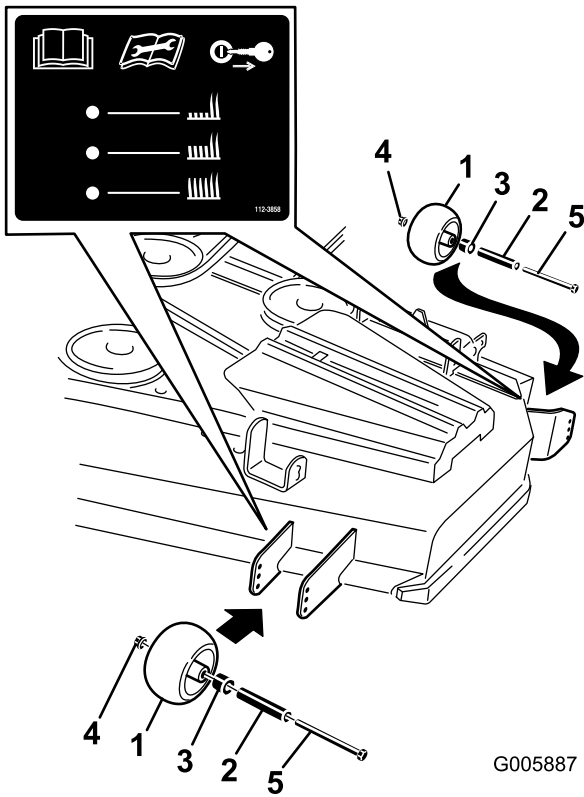
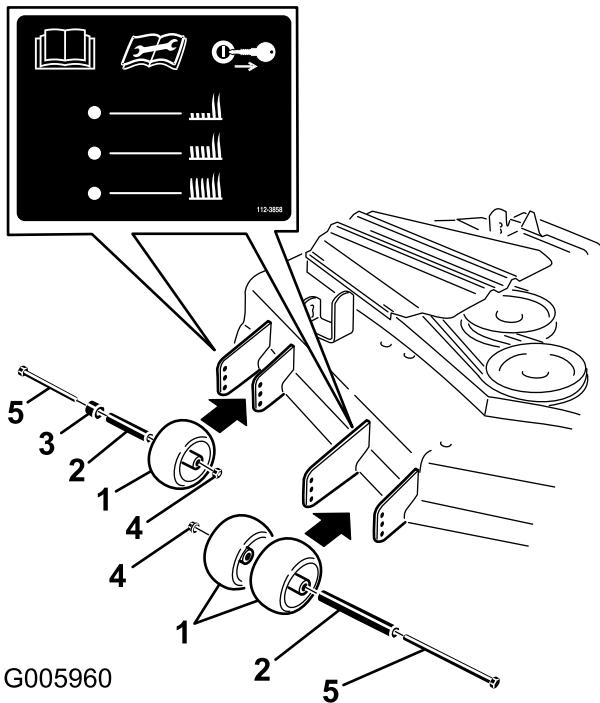

Figure 17
Figure 18
3. After adjusting the height-of-cut, adjust the rollers by removing the flange nut, bushing, spacer, and bolt (Figure 17 or Figure 18).
Note: The two middle rollers will not have a spacer (Figure 17 or Figure 18).
5. Install the flange nut bushing, spacer, and bolt. Torque to 40-45 ft-lb (54-61 N-m) (Figure 17 or Figure 18).